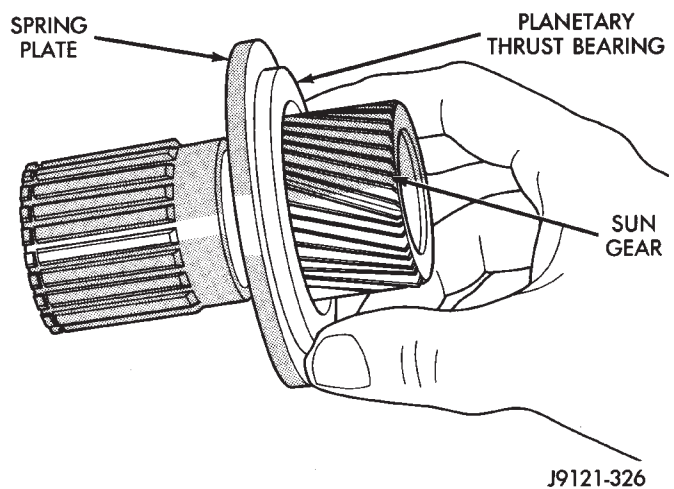

Fig. 335 Installing Planetary Thrust Bearing
(14) Coat planetary thrust bearing and bearing contact surface of spring plate with petroleum jelly. This will help hold bearing in place during installation.
(15) Install planetary thrust bearing on sun gear (Fig. 335). Slide bearing onto gear and seat it against spring plate as shown. **Bearing fits one way only.**